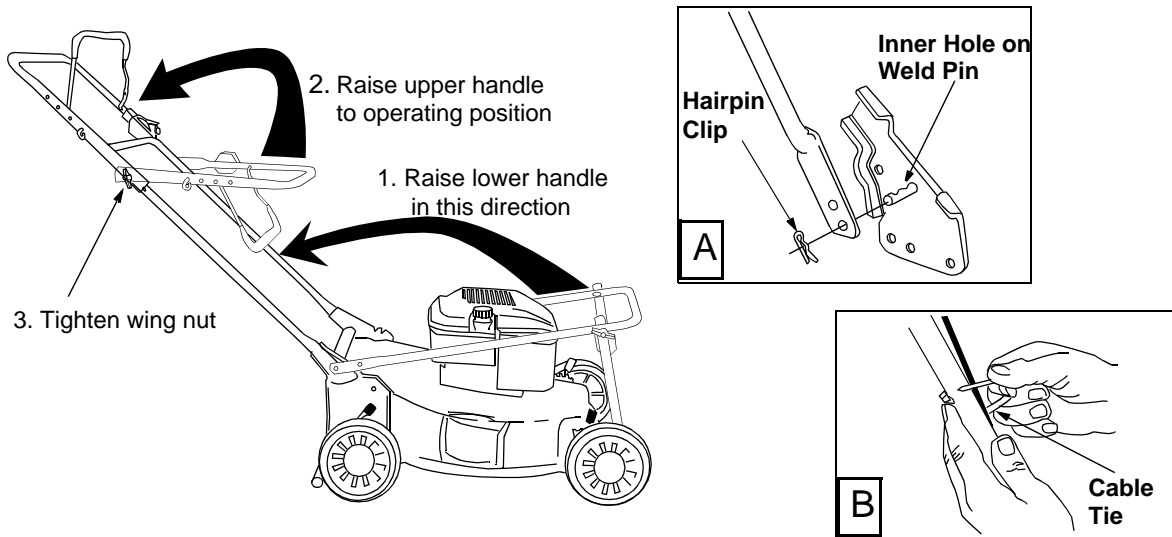

FIGURE 3
- Raise the lower handle in the direction shown in Figure 3 till it snaps into place.
- Using a pair of pliers, insert the hairpin clip into the inner hole in the weld pin. Repeat on other side. See Figure 3 inset A.
- Raise the upper handle in the direction shown in Figure 3. Tighten the wing nuts which are already on the handle.